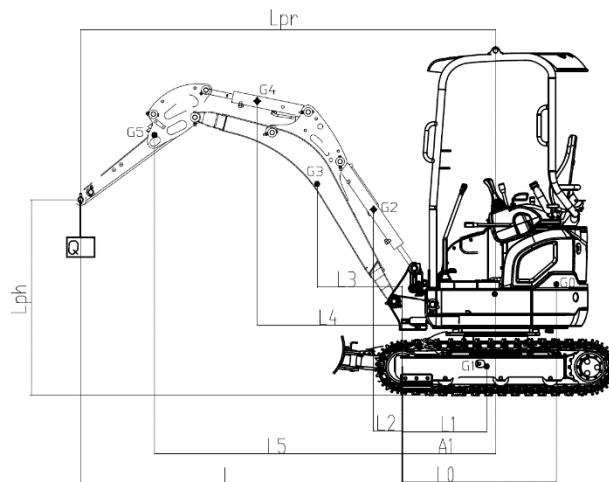

Figure 2
- o the rated lift capacity at straight ahead the excavator, shown as the Figure2
- When lifting at the straight ahead the excavator, the tipping point is located over the edge at the front outrigger, see the Figure 2: